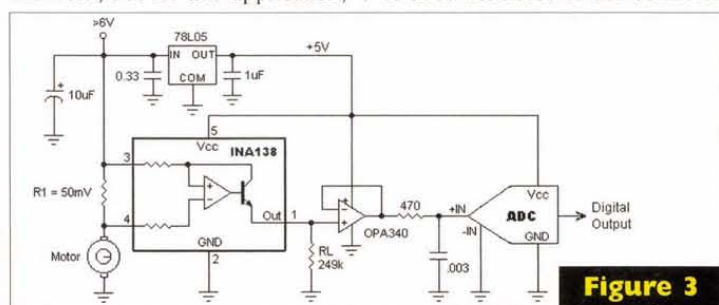

Figure 3
A. I think so. What you need to do is break one of the power source lines and insert an "ammeter" — which is nothing more than a series resistor (R1) that generates a small voltage. The value of the shunt is selected to provide a usable input voltage to the A/D converter, which until recently, was done using op amps. But like the question above, "Baby You Can Drive My Car," TI's introduction of the current shunt monitor IC has simplified a lot of the design work. This time the INA138 in Figure 3 is the perfect chip for the job.